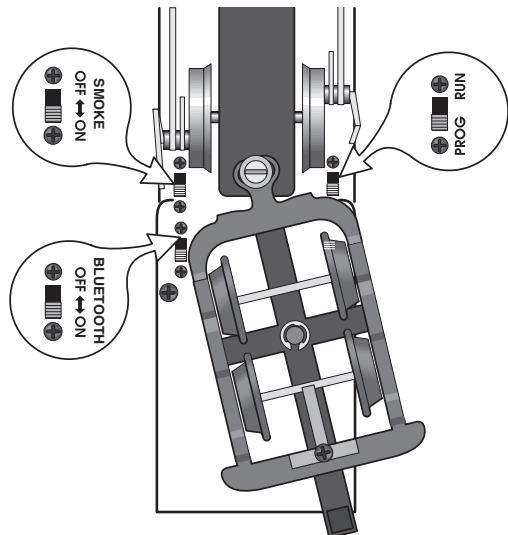

Figure 7. Switch locations
Note! If your locomotive is running in Conventional mode, it can be interrupted by a Bluetooth Control device. If you do not wish for this to happen, locate the Bluetooth ON/OFF switch and move it to the OFF position. Refer to Figure 7 on page 8.
- 1. Slide the program run switch on your locomotive to the PROG position. See Figure 7 on page 8.**